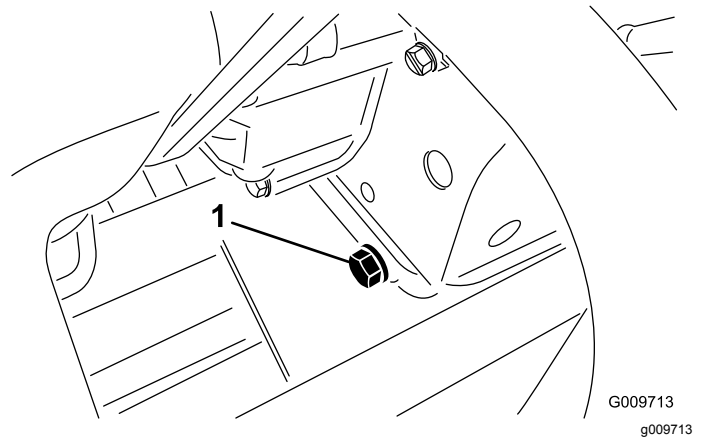

Figure 31
1. Remove the rear drain plug (Figure 31) and let the oil flow into a drain pan. When the oil stops, install the drain plug.